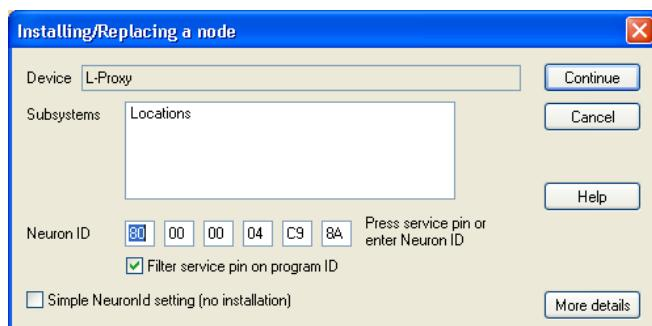

Figure 93: NL-220 node replacement dialog.
- This opens the device replacement dialog box (see Figure 93).